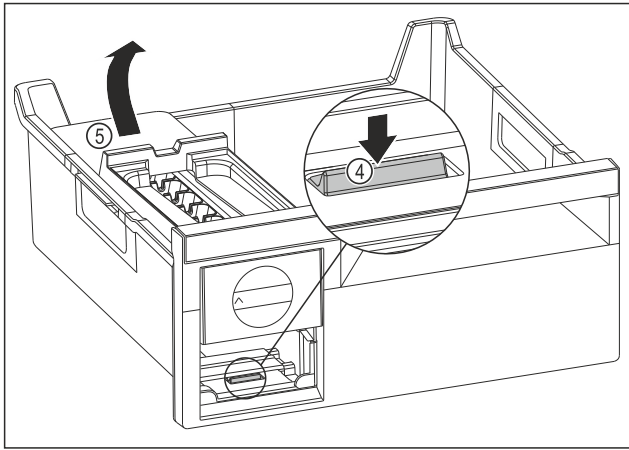

Fig. 110
- ▶ Removing the EasyTwist-Ice body: Use your finger to push the tab Fig. 110 (4) down and use your other hand to lift the EasyTwist-Ice body Fig. 110 (5) from behind at the same time.